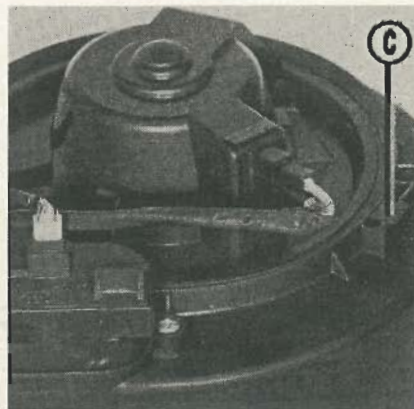

Fig. 10.8 Heater blower motor housing securing clip (C) - assembly shown inverted (Sec 41)
- 2 Working in the passenger footwell, where applicable, remove the single screw securing the motor housing to the air ducting (photo). Alternatively, the motor housing may be secured to the air ducting by a plastic clip which must be released by pulling downwards (Fig. 10.8).